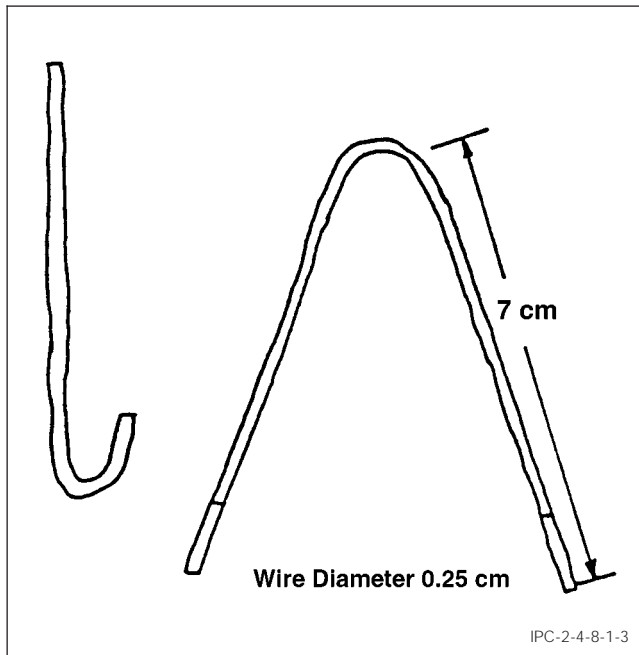

Figure 3 Chain to Hemostat Adapter
4.7 Chain to hemostat adapter, per Figure 3 (approximately 76 mm long)